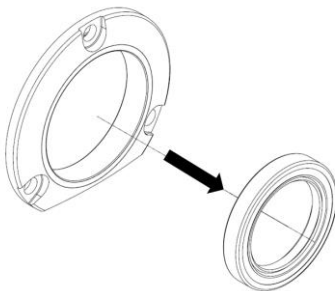

Figure 47: Removing Oil Seals
5) Remove and discard the front bearing seals from the bearing retainers by pressing them out (Figure 47). Clean the bearing retainers as they will be reused.